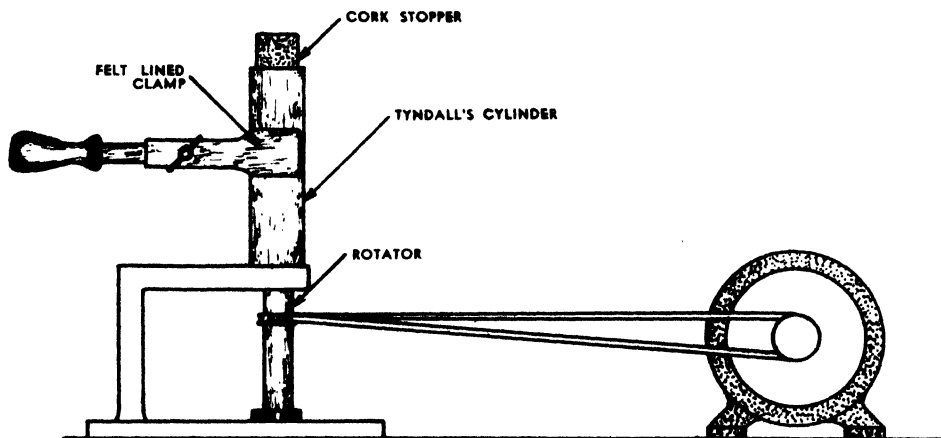

FIG. 246. FRICTION CYLINDER.
5) Tyndall's friction cylinder, Fig. 246, consists of a brass tube mounted on a rotating unit. A hand friction clamp of wood or metal lined with felt, is placed around the cylinder and the cylinder filled with water or alcohol. The liquid is made to boil by means of frictional heat developed by rapidly rotating the cylinder between the jaws of the clamp. A closely fitted stopper inserted in the end of the tube is violently expelled by the vapor pressure of the boiling liquid.